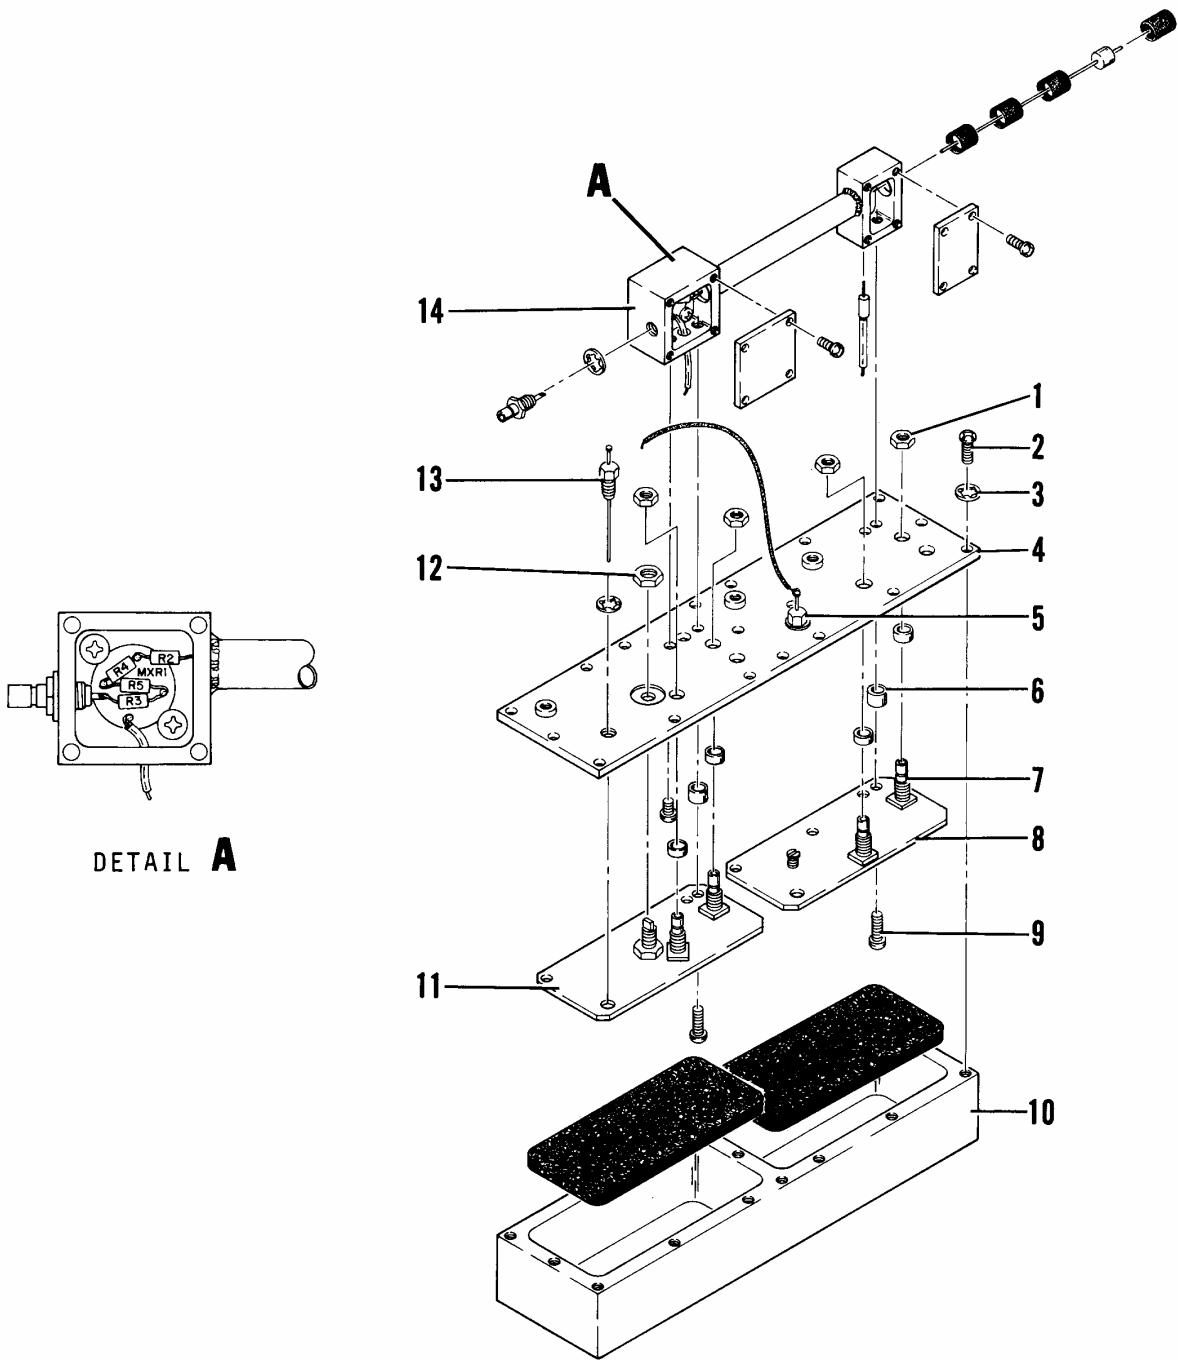

Figure 6-6 Dual VCO Assembly
1. Disconnect five flexible coax cables from Dual VCO (14).
2. Unsolder harness wire from feedthru filter on Dual VCO (14).
3. Remove two screws (8 and 12) and lock washers (9 and 13) attaching Dual VCO (14) to inner mounting bracket (10), and withdraw module from chassis.
B. Disassembly (Figure 6-6)